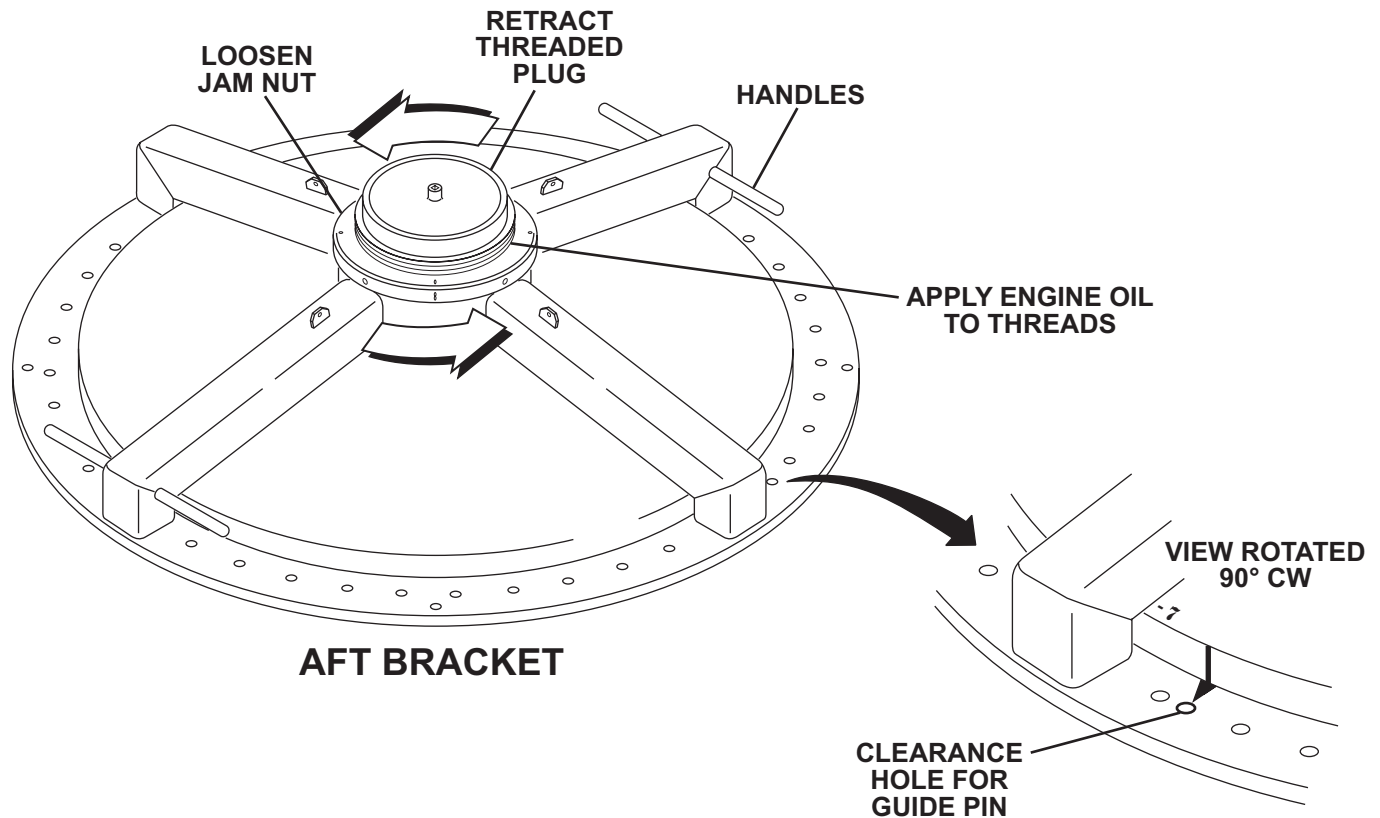

Figure 5.1-3. Aft Bracket Installation.
- 8) Before installing the aft bracket, loosen the jam nut on the aft bracket and retract the threaded plug to provide sufficient axial clearance between the HPTR shaft and the threaded plug. See Figure 5.1-3.